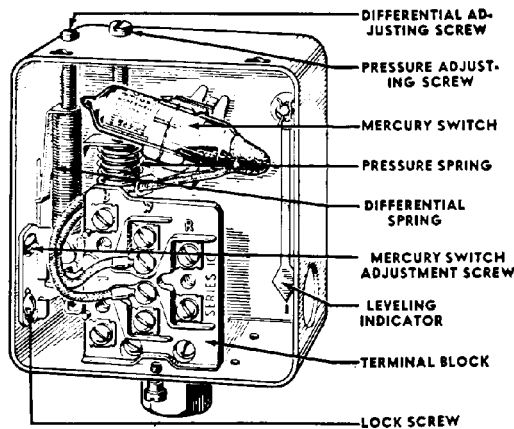

Figure 7-11. Pressure control for steam boiler.
(2) Surface-mounted aquastats are not recommended for riser pipe sizes less than $1\frac{1}{2}$ inches because of the small contact area. When riser pipe sizes run less than $1\frac{1}{2}$ inches use an immersion type limit control.
c. Limit controls for steam boilers. Limit controls for steam are known as pressure controls. Care and operation for these controls is identical. Figures 7-11 shows a typical pressure control.